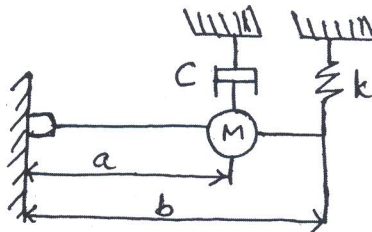

Fig Q3(b)
- b. Determine suitable expression for equation of motion of the damped vibratory system shown in Fig Q3(b). Find the critical damping coefficient when $a = 12\text{cm}$, $b = 14\text{cm}$, $k = 5\text{N/mm}$ and $M = 1.5\text{kg}$.